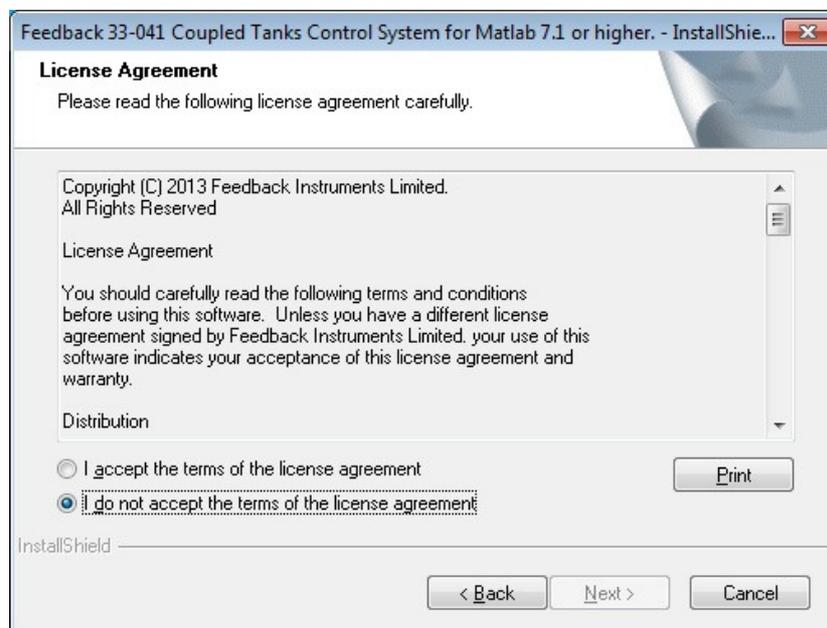

Figure 18 License Agreement window
1. Close Matlab. Run the setup programme from the CD. The following window will open (Figure 18).